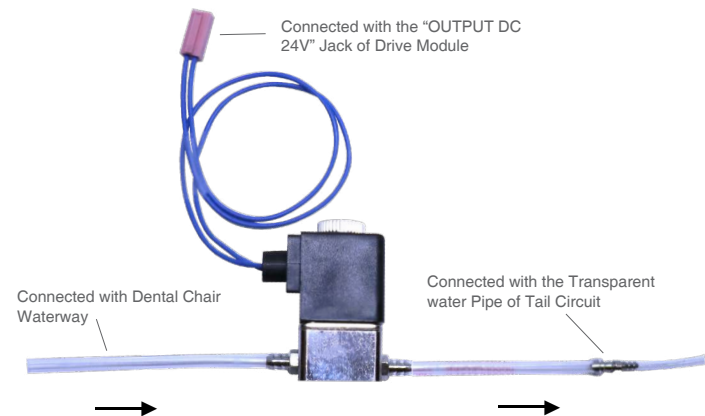

Figure 7
5.7.4 In setting interface, touch key “11” to enter interface shown in Figure 7 for language selection.